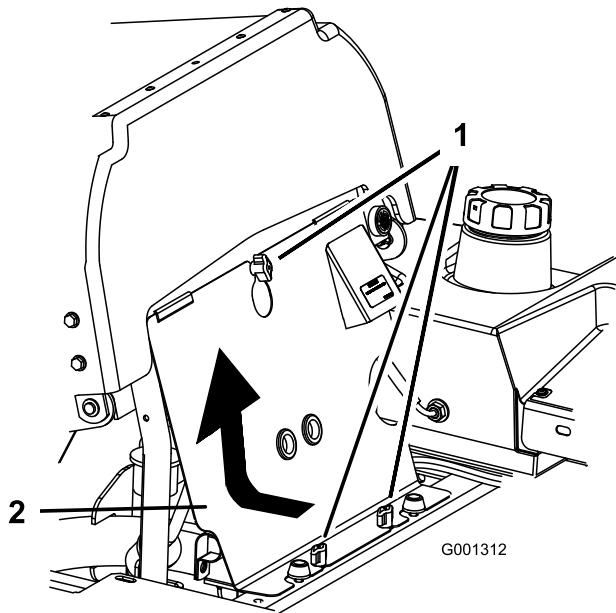

Figure 87
3. Loosen the front engine panel knobs and remove the panel (Figure 87).